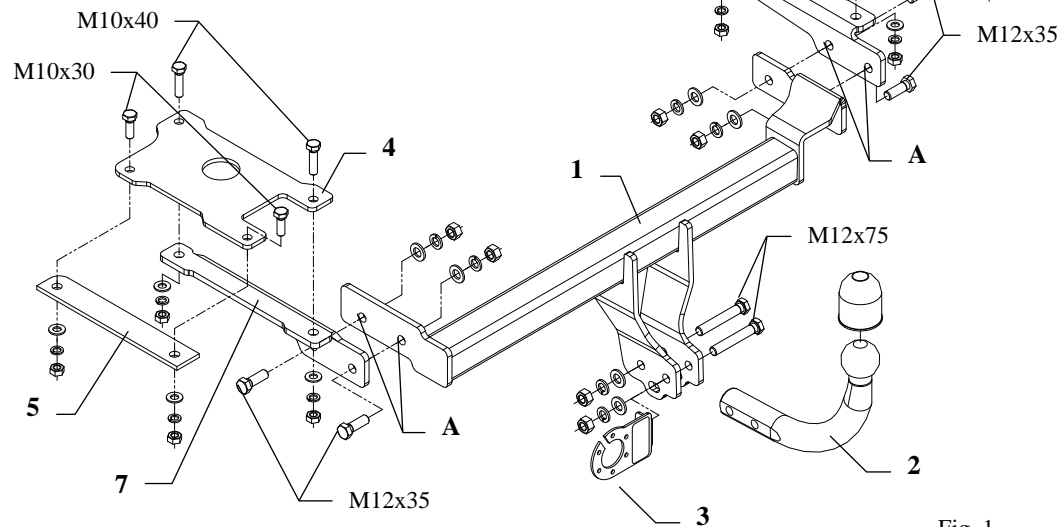
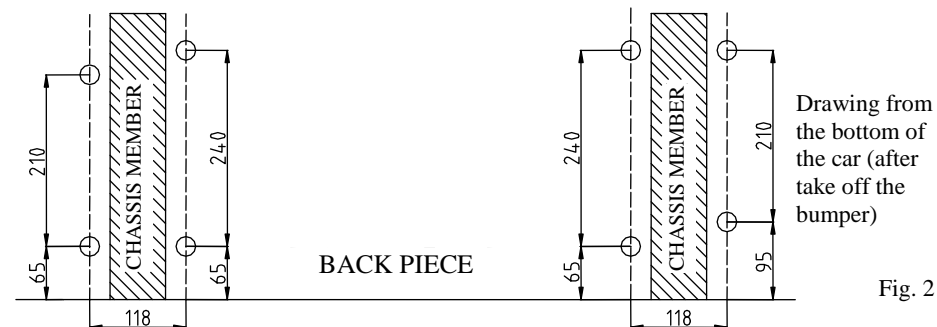

Fig. 1
Fig. 2
3. Point out holes from the bottom of the car according to the fig. 2 (above). Then drill holes  $\varnothing 11\text{mm}$  (drillings fall out in places of the pressure welding of chassis members with the floor of the car) – make carefully and precisely.
4. Apply properly large fish-plates (pos. 4 and 6) onto made holes (inside the trunk).
5. Apply side brackets (pos. 7 and 8) from the bottom of the car and through large fish-plates (pos. 4 and 6) fix properly with bolts M10x40mm – pos. 11 (see fig. 1).
6. Apply fish-plates (pos. 5) from the bottom of the car and through large fish-plates (pos. 4 and 6) fix properly with bolts M10x30mm – pos. 12 (see fig. 1).
7. To side brackets through holes (pos. A) fix the main bar of the towing hitch (pos. 1) using bolts M12x35mm (pos. 10).
10. To so prepared towing hitch fix tow-ball (pos. 2) with socket plate (pos. 3) using bolts M12x75mm (pos. 9) from towing hitch accessories.